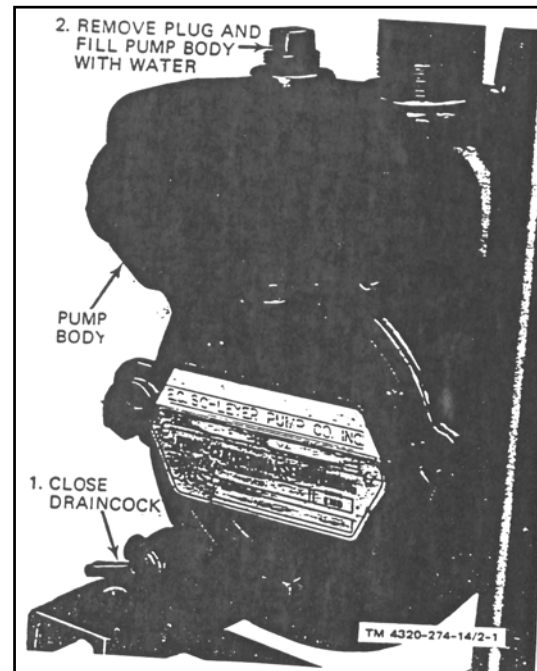

Figure 6-2
(1) Refer to paragraph 6.18 and table 6.1 to perform the daily preventive services.
(2) Reference to figure 6-2 and prime the pumping unit.